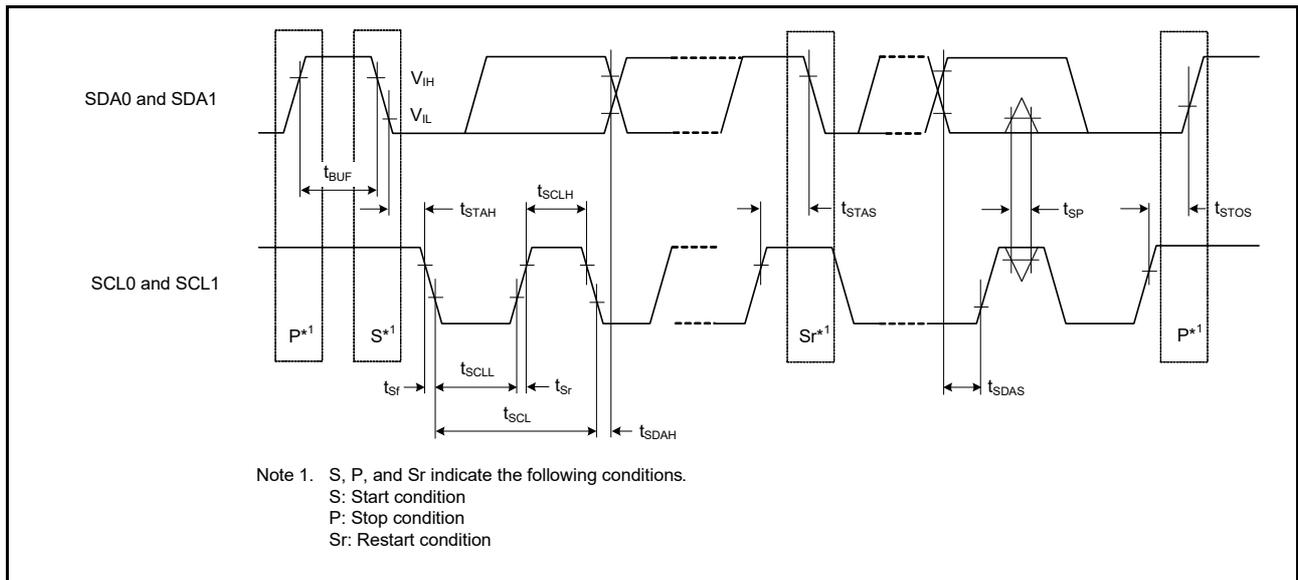

Figure 2.56 I²C bus interface input/output timing
| IIC (standard mode, SMBus) | SCL input cycle time | t_{SCL} | $6 (12) \times t_{IICcyc} + 1300$ | - | ns | Figure 2.56 |
| IIC (Fast mode) | SCL input cycle time | t_{SCL} | $6 (12) \times t_{IICcyc} + 600$ | - | ns | Figure 2.56 |